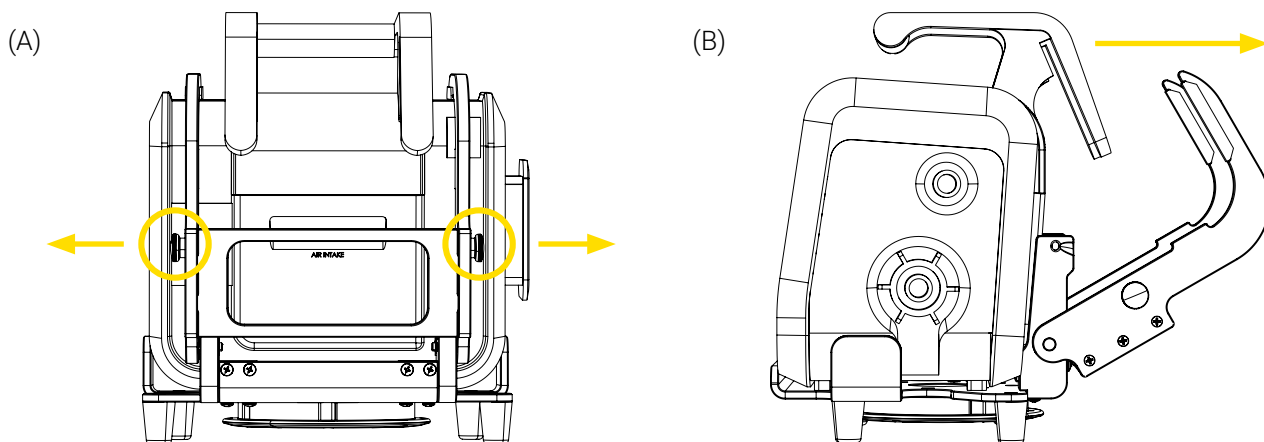

Figure 6: Unlocking/opening the Bracket Pro Serie 60 - SD
1. Pull and hold the two (2) quick release knobs to disengage the locking system (Figure 6 A), then push the bar backwards to lower it until it has run its course (Figure 6 B).